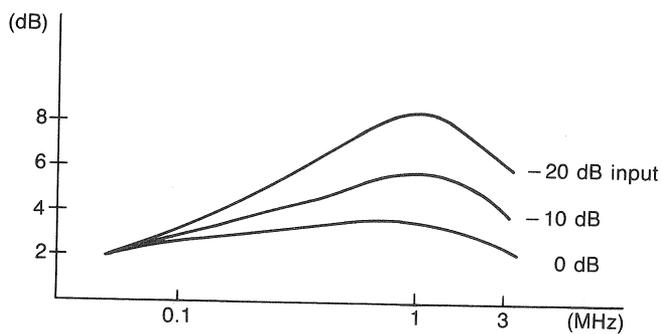

Fig. 4 Characteristics of Dynamic Pre-emphasis
*Y-signal:* Video signal level is made constant by AGC. Y-signal is taken out of the video signal by LPF. The Y-signal is equalized, clamped and then pre-emphasized. There are two kinds in pre-emphasizers, Dynamic Pre-emphasizer which increases its amplification in high frequency range as the input level decreases, and Main Pre-emphasizer which emphasizes the signal in high frequency range irrespective of the input level. Fig. 4 and 5 show the characteristics of the pre-emphasizers. Unwanted overshoot generated in pre-emphasizing process is clipped. The signal is then frequency-modulated (FM) in the range from 3.8MHz (sync tip) to 4.8MHz (white peak). Low frequency components are cut off by 1.5MHz HPF to make a room for 0.627MHz-converted C-signal.